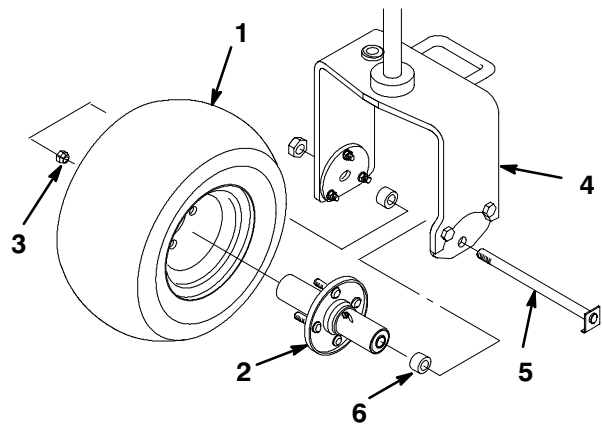

Figure 2
1. Mount the wheel hub to the rear wheel rim with 4 mounting nuts (Fig. 2). Torque the nuts to 70-90 ft.-lb.
2. Remove the wheel bolt and locknut from the wheel mounting holes in the rear castor fork (Fig. 2).
5. Position the bend of the wheel bolt head under the bottom edge of the adapter plate (Fig. 2). Install and tighten the locknut to secure the wheel to the castor fork. Do not overtighten the locknut as the wheel must rotate freely.